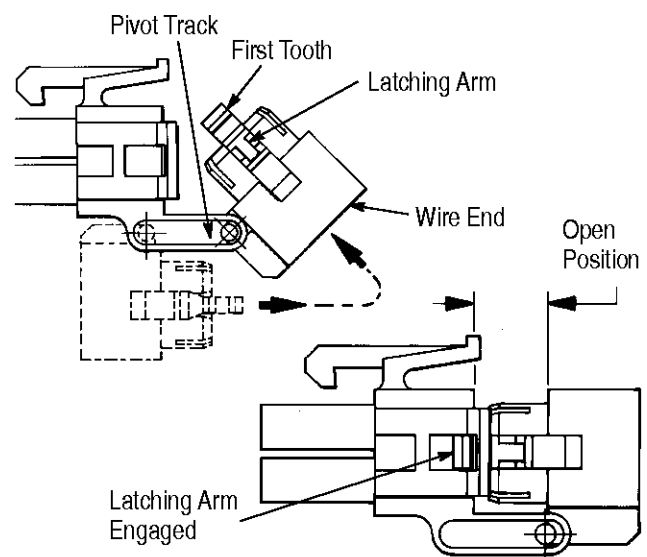
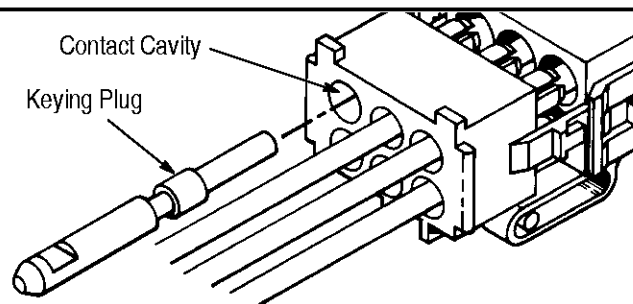

Figure 2
Figure 5
2. Rotate back side (wire end) of connector housing 180° along the pivot track, until the first tooth of each latching arm engages; this is the open position. See Figure 2.
2. With the plug or cap housing in the open position (Figure 2), insert the keying plug into the wire end as shown in Figure 5.